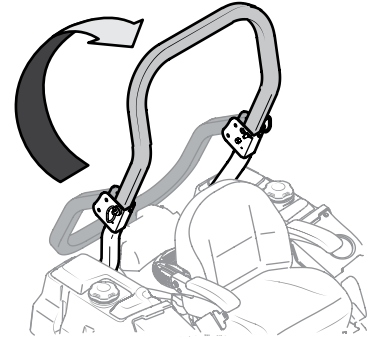

Figure 2-3
1. Remove the left and right clevis pins and cotter pins securing the ROPS in position and rotate it so that they allow the ROPS to move freely. See Figure 2-3.